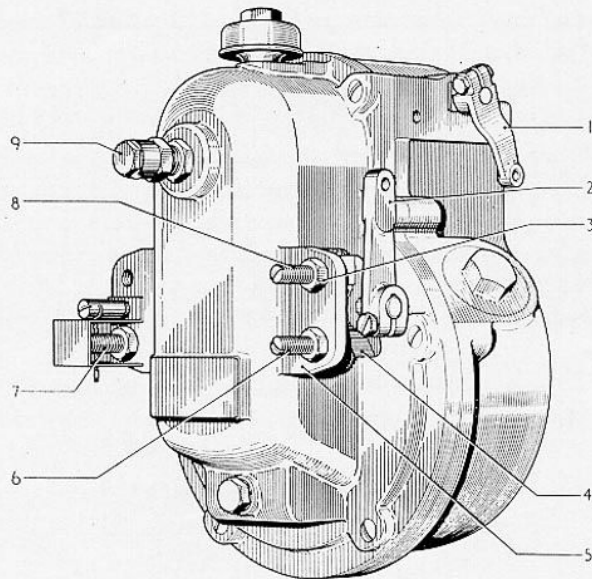
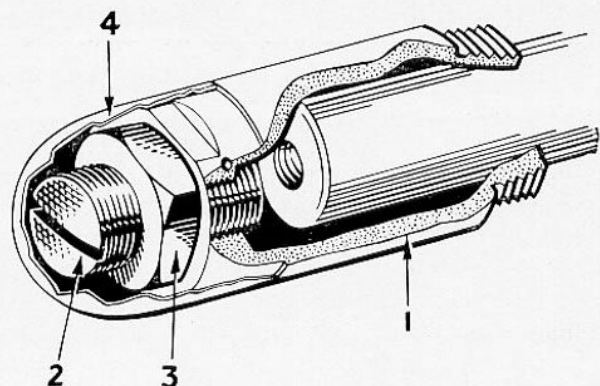

FIG. 4. GOVERNOR STOPS
FIG. 5. CONTROL ROD STOP
A rigid accelerator pedal stop must be provided, and this should be adjusted to prevent overloading of the control lever maximum fuel stops (6 and 7), (Fig. 4), when the pedal is depressed.
The idling speed position of the governor control lever is set by the stop (8), Fig. 4. This stop is screwed into a
The governor is provided with a control lever stop (7), Fig. 4, which contacts a pawl (not shown) when the control lever is in the maximum fuel position. This stop is sealed following the engine manufacturer's test bed trials. In addition to the sealed stop, a maximum fuel stop (6) is screwed into the flange (5) and limits the movement of pawl (4) in the opposite direction to that for idling. The second stop enables the operator to reduce maximum fuel delivery, and thus maximum power, below the setting of the sealed stop when this is desirable. A further stop (see Figs. 1 and 5) is provided at the opposite end of the pump to the governor to limit control rod movement.
Slacken control rod stop (Fig. 5). Set control lever (2) Fig. 4 in its maximum fuel position, with engine developing the desired power and speed and with a clean exhaust. Adjust the stop (7), until it just contacts the control lever pawl, then tighten the locknut.
During normal engine running, the control rod is restrained from movement beyond the maximum fuel position by the setting of the fly-weight springs and by the control lever stops. The control rod stop (Fig. 5)
must, therefore, never be set to a position where control rod travel is restricted to less than that allowed by the maximum fuel stops (6 and 7), Fig. 4. Failure to observe this condition will impose unnecessary strain on the governor linkage.
**Note: The control rod stop must be set on the engine test bed, not on the vehicle, Before setting is attempted, the maximum fuel stops (6 and 7), Fig. 4 must be correctly adjusted.**
Remove cap (4), Fig. 5, from control rod sleeve (1) and slacken locknut (3). With engine running at any speed between idling and maximum and developing full power, screw in adjusting stud (2) until engine power begins to fall. Retract stud until full power is restored, then retract stud a further 1 to 1½ turns. Tighten locknut and replace cap.